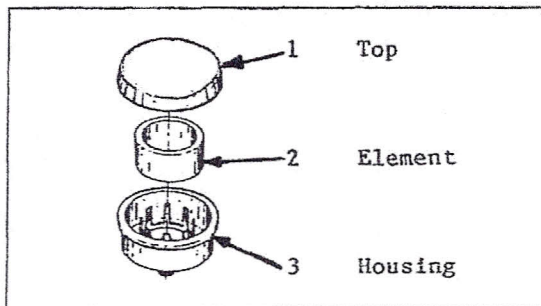

Figure 5-2. Compressor Filter
- a. Lift top (1, Figure 5-2) from filter housing.
- b. Remove filter element (2) and blow away dirt particles with compressed air.